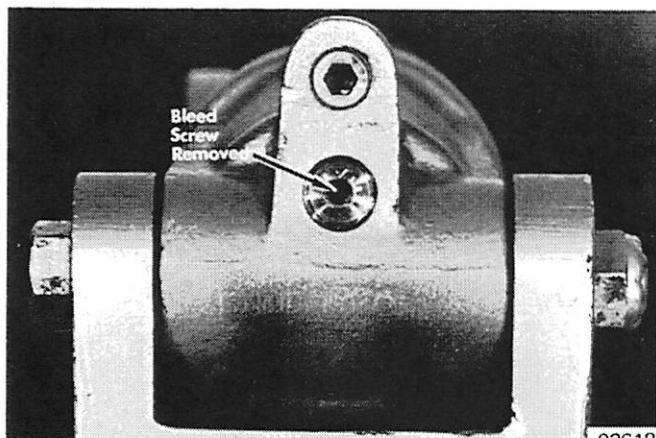

Figure 2. Top of Cylinder
1. Remove "Down" bleed screw and "O" ring at top of cylinder. (Figure 2)